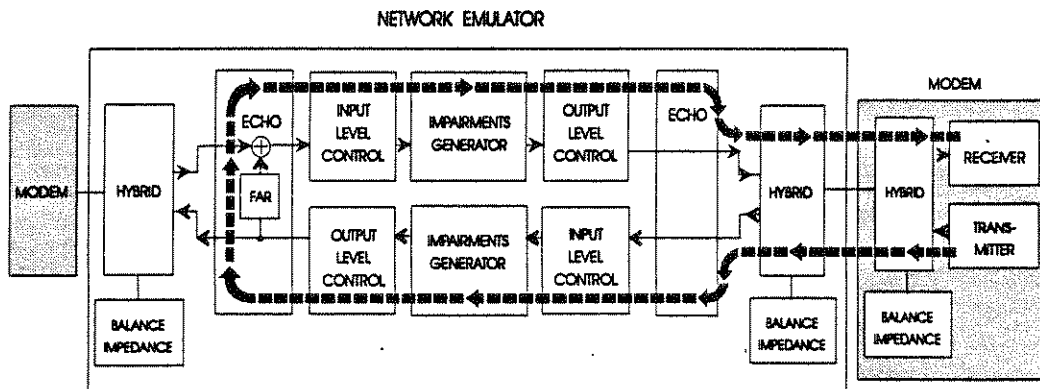

Figure 3-9. Far Talker Echo
The TAS 100 Series provides far end talker echo simulation for station A and station B. Station B (A) far talker echo is illustrated in Figure 3-9 and is the reflection of the modem B (A) transmit signal that occurs at the station A (B) hybrid (far end) of the TAS 100 Series. The magnitude of this reflection is determined by the trans-hybrid loss of the station A (B) hybrid. The station B (A) far echo attenuator magnitude is equal to the trans-hybrid loss of the TAS 100 Series hybrid A (B), if the hybrid is balanced.